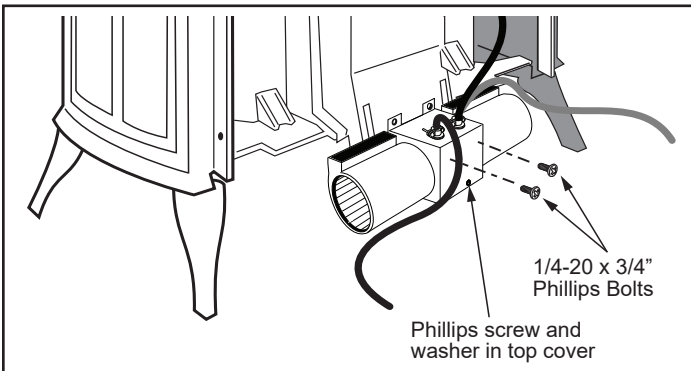

Figure 3 - Attach fan assembly.
3. Fasten the blower assembly using the two phillips bolts originally installed in the firebox back, Figure 3.